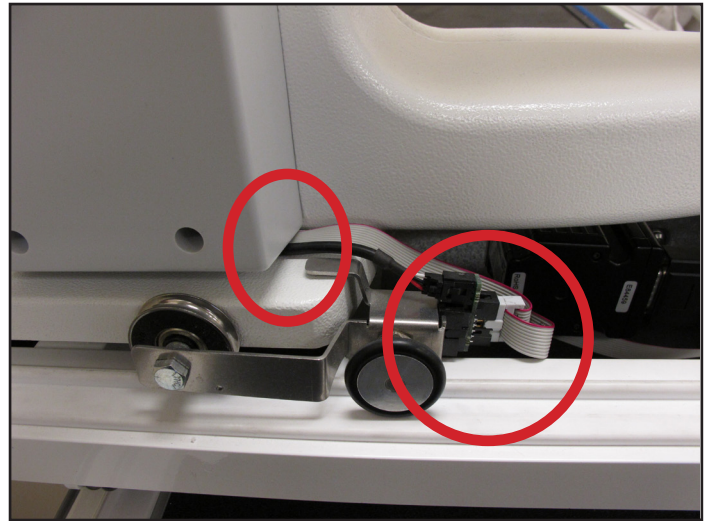

Figure 28
12. Route the 3-pin black cable under the P-pod and plug it into the mating 3-pin connector on the new adapter board (*Figure 28*).